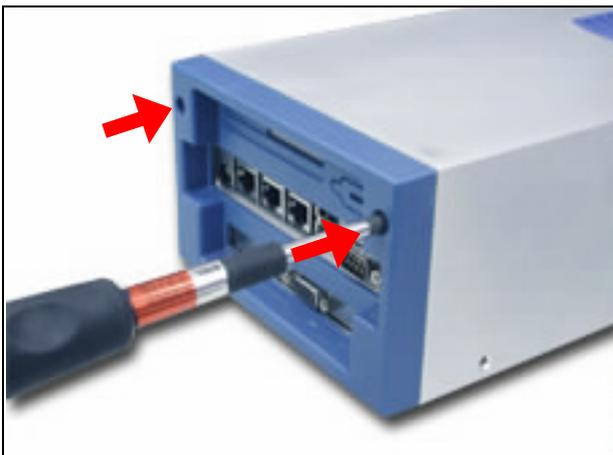

*Fig. 2-40 Fix the PCI card to the back panel*
8. Put the steel back panel back to the system and lock the PCI card in position by a screw. (*Fig. 2-40*)